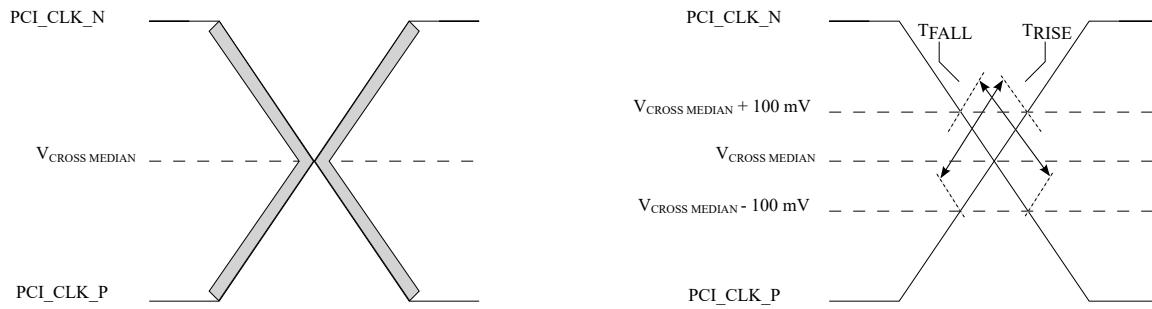

Figure 23. Single-ended measurement points for rise and fall time matching
Differential Waveform	The differential waveform is constructed by subtracting the inverting signal (SD_TX _n _N, for example) from the non-inverting signal (SD_TX _n _P, for example) within a differential pair. There is only one signal trace curve in a differential waveform. The voltage represented in the differential waveform is not referenced to ground. See Figure 23 as an example for differential waveform.
11. Matching applies to rising edge for PCI_CLK_P and falling edge rate for PCI_CLK_N. It is measured using a 200 mV window centered on the median cross point where PCI_CLK_P rising meets PCI_CLK_N falling. The median cross point is used to calculate the voltage thresholds that the oscilloscope uses for the edge rate calculations. The rise edge rate of PCI_CLK_P must be compared to the fall edge rate of PCI_CLK_N, the maximum allowed difference should not exceed 20% of the slowest edge rate. See Figure 23.